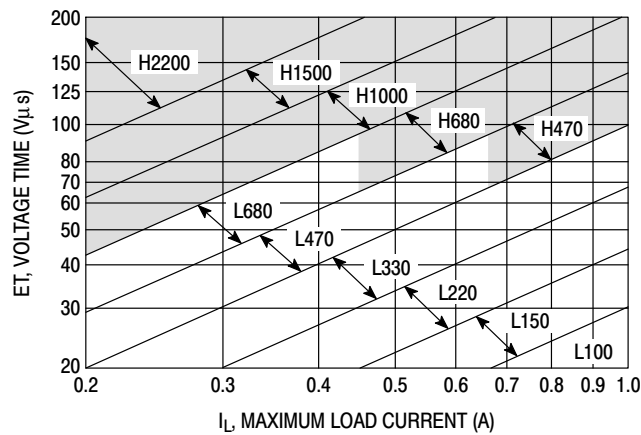

Figure 21. LM2575-Adj
4. Inductor Selection (L1) A. Use the following formula to calculate the inductor Volt x microsecond [V x μs] constant: $E \times T = (V_{in} - V_{out}) \times \frac{V_{out}}{V_{on}} \times \frac{10^6}{F[\text{Hz}]} \text{ [V x } \mu\text{s]}$ B. Match the calculated E x T value with the corresponding number on the vertical axis of the Inductor Value Selection Guide shown in Figure 21. This E x T constant is a measure of the energy handling capability of an inductor and is dependent upon the type of core, the core area, the number of turns, and the duty cycle. C. Next step is to identify the inductance region intersected by the E x T value and the maximum load current value on the horizontal axis shown in Figure 21. D. From the inductor code, identify the inductor value. Then select an appropriate inductor from the Table 1 or Table 2. The inductor chosen must be rated for a switching frequency of 52 kHz and for a current rating of $1.15 \times I_{load}$. The inductor current rating can also be determined by calculating the inductor peak current: $I_{p(\text{max})} = I_{\text{Load}(\text{max})} + \frac{(V_{in} - V_{out})t_{on}}{2L}$ where t_{on} is the "on" time of the power switch and $t_{on} = \frac{V_{out}}{V_{in}} \times \frac{1}{f_{osc}}$ For additional information about the inductor, see the inductor section in the "External Components" section of this data sheet.	4. Inductor Selection (L1) A. Calculate E x T [V x μs] constant: $E \times T = (12 - 8.0) \times \frac{8.0}{12} \times \frac{1000}{52} = 51 \text{ [V x } \mu\text{s]}$ B. E x T = 51 [V x μs] C. $I_{\text{Load}(\text{max})} = 1.0 \text{ A}$ Inductance Region = L220 D. Proper inductor value = 220 μH Choose the inductor from the Table 1 or Table 2.